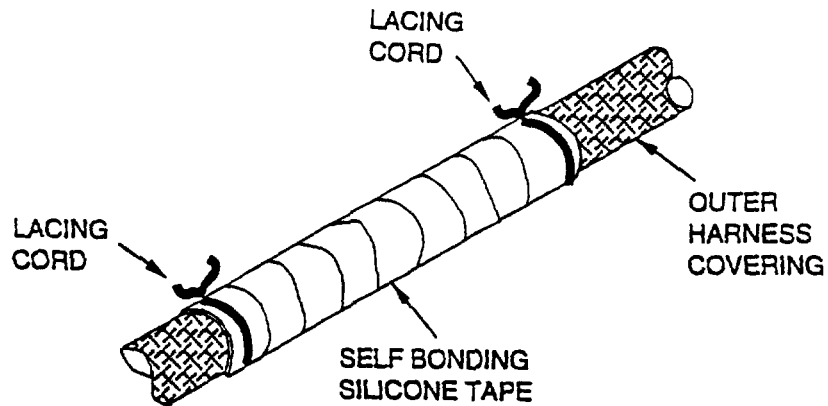

Figure 47. Securing Overbraid Tape
m. Secure ends of tape with lacing cord (Figure 47).